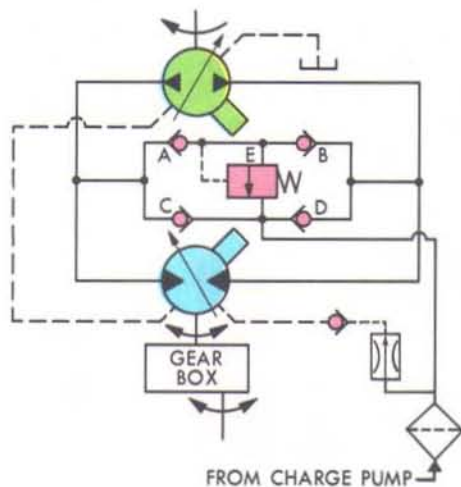

Figure 206
We don't get away without using valves in a closed circuit because we still need a relief valve and we must have a way to replenish the circuit with oil; that is, to make up for any oil lost to leakage and insure that the pump inlet is always supplied. The valves that are required form the relief and replenishing network (Figure 206). The system works like this:
- The relief valve (E) is connected between the cross-line check valves A and B and can divert pump output through replenishing check valve to pump inlet line if excess pressure is encountered.
- In Figure 206, let's assume that the main stream of flow is going clockwise. The left side of the loop therefore is under low pressure and the right side is at system operating pressure. Check valve B will open to connect the high pressure side to the relief valve inlet. Check valve A is held closed by system pressure. Check valve C is open to replenish the left-hand branch of the loop and check valve D is held closed.